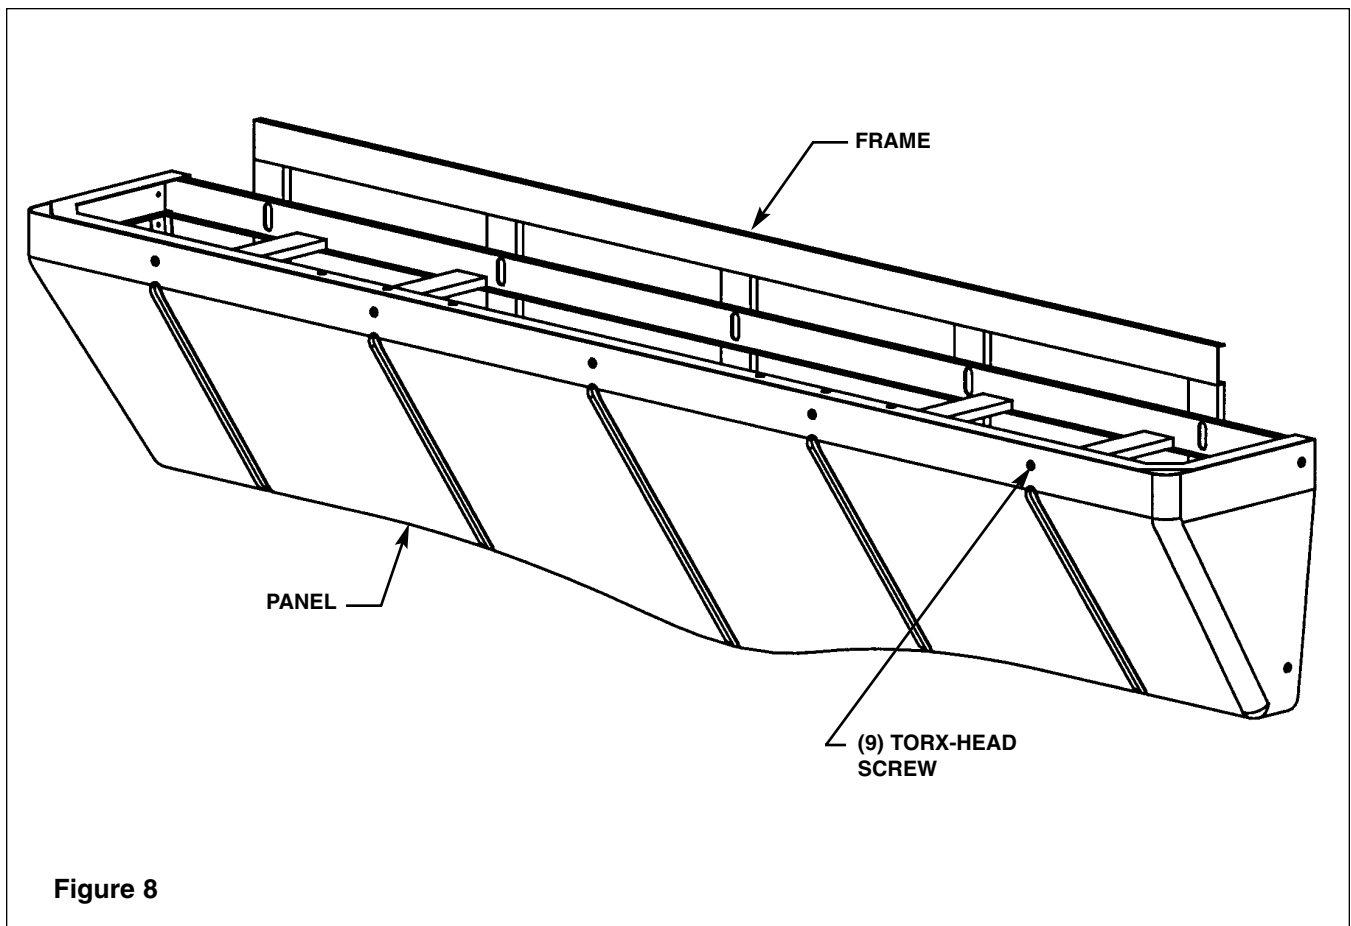

Figure 8
2. Install the panel to the frame. Fasten panel with the nine Torx-head screws provided (see Figure 8 below).